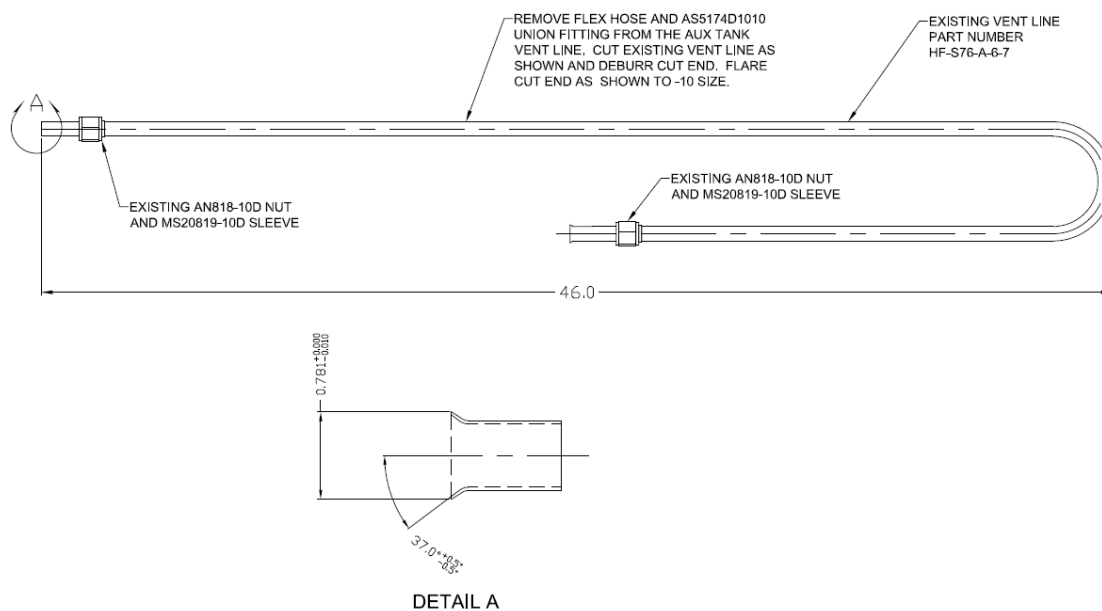

Figure 3
4. Locate two new vent line brackets (PN HF-S76-D-6-26 and HF-S76-D-6-27) to the auxiliary fuel tank assembly and match drill $\varnothing 0.1285$ holes from the vent line brackets to auxiliary fuel tank panel PN HF-S76-D-2-75. Deburr all holes, maximum depth of hole deburr to be 10% of material thickness. (See figure 3)
5. Install vent line brackets (PN HF-S76-D-6-26 and HF-S76-D-6-27) to the auxiliary fuel tank assembly using 2 each CR3214-4 rivets (See figure 3).
6. Ensure modified aux tank vent line is free of dirt and debris and install auxiliary fuel tank vent line to auxiliary fuel tank assembly using same hardware removed in step 1 (See figure 3).
7. Install new 90° elbow fitting (PN AN821-10D) to the end of auxiliary fuel tank vent line (See figure 3).
8. Install flex hose removed in step 2 to 90° elbow fitting (PN AN821-10D) (See figure 3).
9. Torque all -10 size flare nuts to 200-350 in-lb (See figure 3).